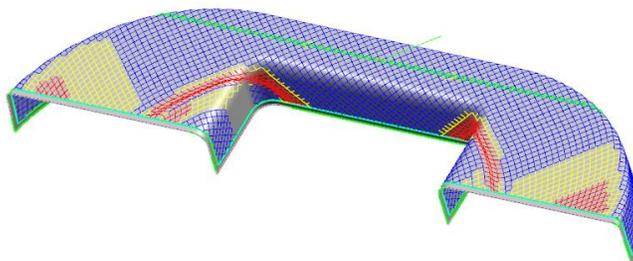

Figure 4–61
4. Switch to the NX window to display the producibility results as shown in Figure 4–61.